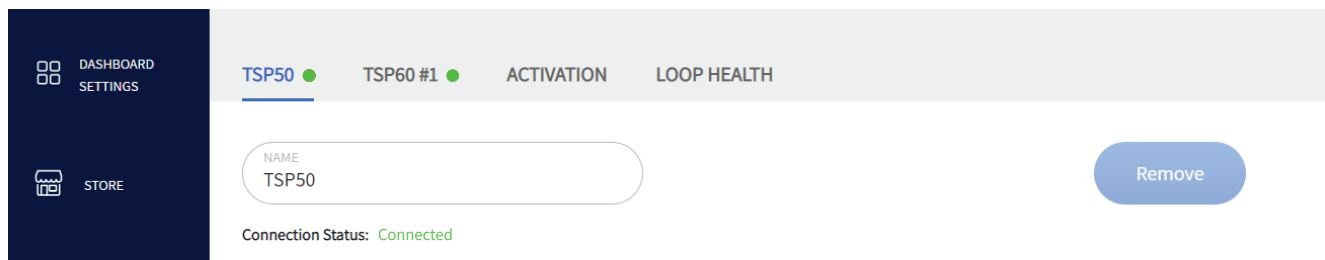

Fig. 6.2
**NOTE** The ZOOM Nitro system is capable of supporting multiple TSPs (a maximum of eight TSP60s). It can also support two models simultaneously (one TSP50 with up to seven TSP60s). Each additional TSP appears at the top of the screen. For example, Fig. 6.2 shows two TSPs in use, one TSP50 and one TSP60.
Depending on what TSP model your store is using determines what TSP is displayed at the top of the screen. In Fig. 6.2, two TSP models are employed, so both TSP50 and TSP60 #1 are displayed. If, for example, you were to add another TSP60 to your system, it would also be displayed here.
The green indicator  next to the TSP50 tab in Fig. 6.2 indicates this TSP50 is physically connected. If the TSP is physically disconnected, this indicator will turn red, and a prompt will also notify you.
When a TSP is physically disconnected, it is still visible onscreen because it has not been removed from the system yet. Use the  button to accomplish this. This button only becomes active when a TSP is disconnected (a safety measure to prevent accidental removals). For example, in Fig. 6.2, TSP50 is connected, so the Remove button is deactivated (indicated by a faded blue color). If TSP50 is disconnected, the green indicator turns red, and the  button becomes active. Once clicked, TSP50 will disappear from the top of the screen, leaving only TSP60 #1 displayed. Reconnecting the TSP will cause it to appear again with a green indicator next to it.